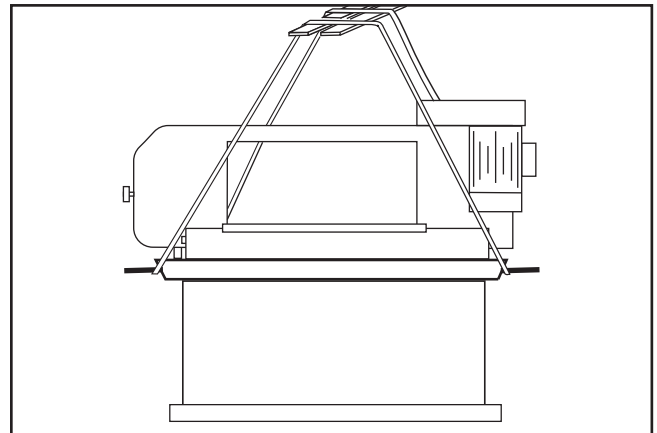

Figure 20. Lifting straps connected to steel rod stock.
3. Insert (1) round steel rod stock through (2) lifting holes on each side of chip pan (see **Figure 20**).
4. Attach lifting straps to steel rod stock and power lifting equipment (see **Figure 20**).